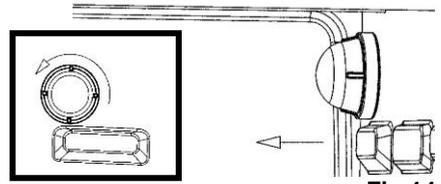

Fig 14
2. Carefully unscrew the glass cover (figs. 14 & 15) and place to one side.